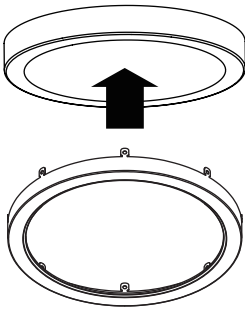

fig. 1
1. Position the trim kit over the 3N1 downlight. (fig. 1)